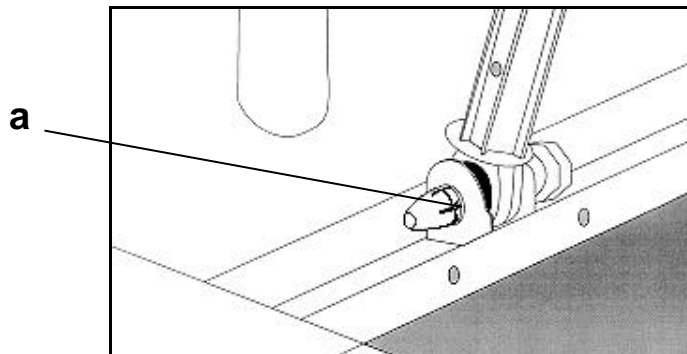

figure 12
- Shock absorber pin at the body side is pulled off (figure 12)